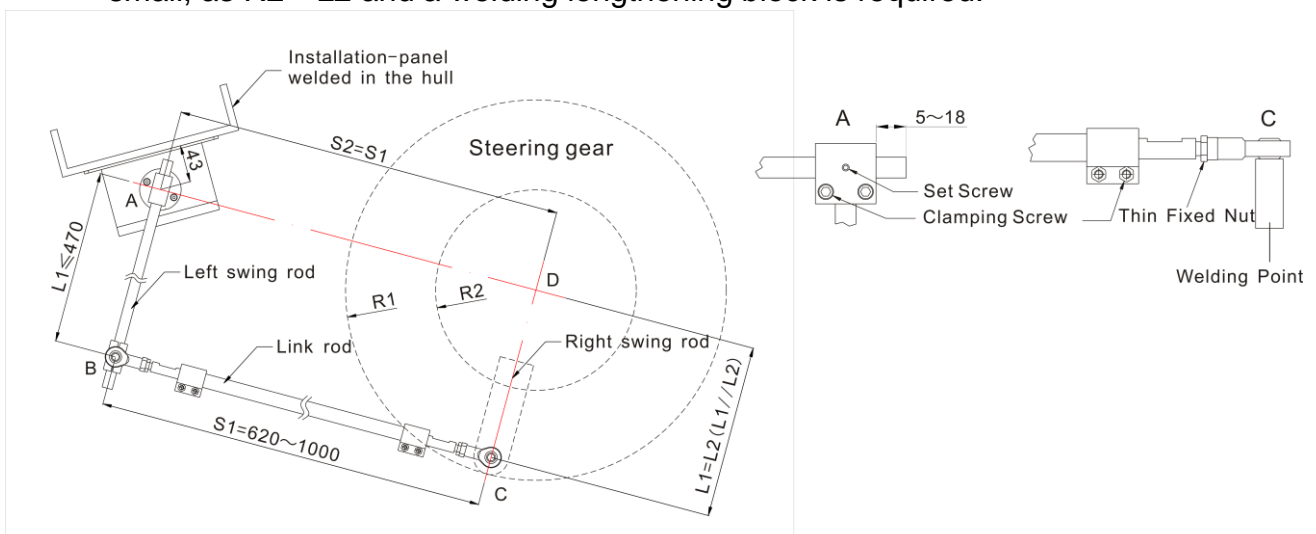

Figure 19 Installation of Rudder Angle Transmitter AD803-3
Step 1. After finish the installation of Transmitter box, measure the length of the shadow AD to estimate the length of S2, shown in Figure 19